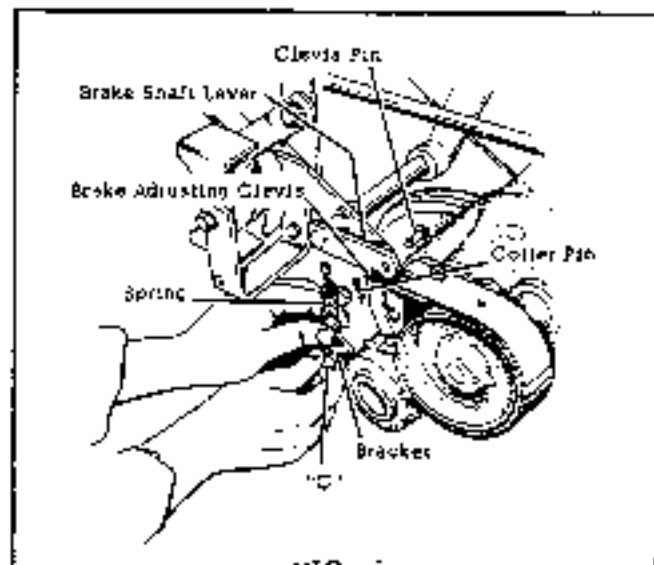

FIG. 3
3. Assemble the shifter fork assembly with the longer shaft into the "Y" shaft hole of the transmission. Take care to be sure that the setscrew, which holds the shaft in place, is actually locked into the setscrew hole of the shifter shaft. Now assemble the shorter shaft into the "Z" shaft hole of the transmission and lock in place in same manner as other shifter fork assembly. See Fig. 3.
4. Assemble the reverse gear "F" as shown in Fig. 3. When properly assembled, insert the gear assembly into the transmission case and position the bracket over the mounting hole in the case. See Fig. 3. Fasten the bracket to the case with a hex cap screw and tighten to 20 ft. lbs. $+0$ lbs. -3 .
6. Place a greased flat washer over face of bearing "A" in transmission case. See Fig. 3 & 4. To install shaft "A" and gears, first move the "Y" shift fork into Neutral (See disassembly instructions) and move the "Z" fork into raised position (see disassembly instructions). Raise the gear cluster on shaft "B" slightly and move shaft "A" toward the shift forks. When you slide the shift rings on the gear assemblies into position against the shift forks, it should be possible to lower shaft "A" into place in its bearing.
the transmission so that bolt "A" may be inserted and partially tightened. Add bolt "B". Now add bolts "A" & "B" to the L.H. side of the transmission. With the spring bracket in place on bolt "C" and positioned as shown in Fig. 3, tighten the bolt. Now tighten all 6 mounting bolts securely.
3. Insert the clevis pin through the hole of brake adjusting clevis, through the hole in lever of clutch and brake shaft assembly, and through the end loop of spring. After the pin is in place, secure with cotter pin. See Fig. 3.